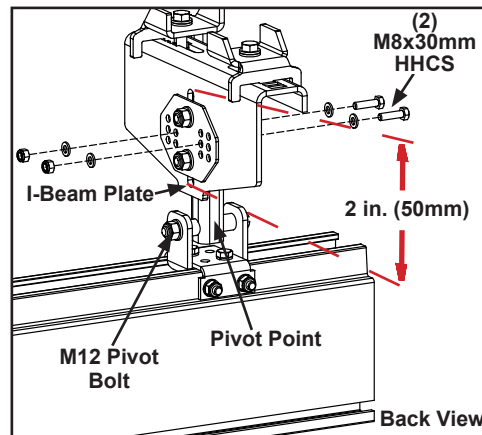

Figure 3-17
- Step 3. Set desired height and line up nearest matching set of 5/16 in (8 mm) clearance holes and reinstall bolts, nuts and washers. See Figure 3-17.